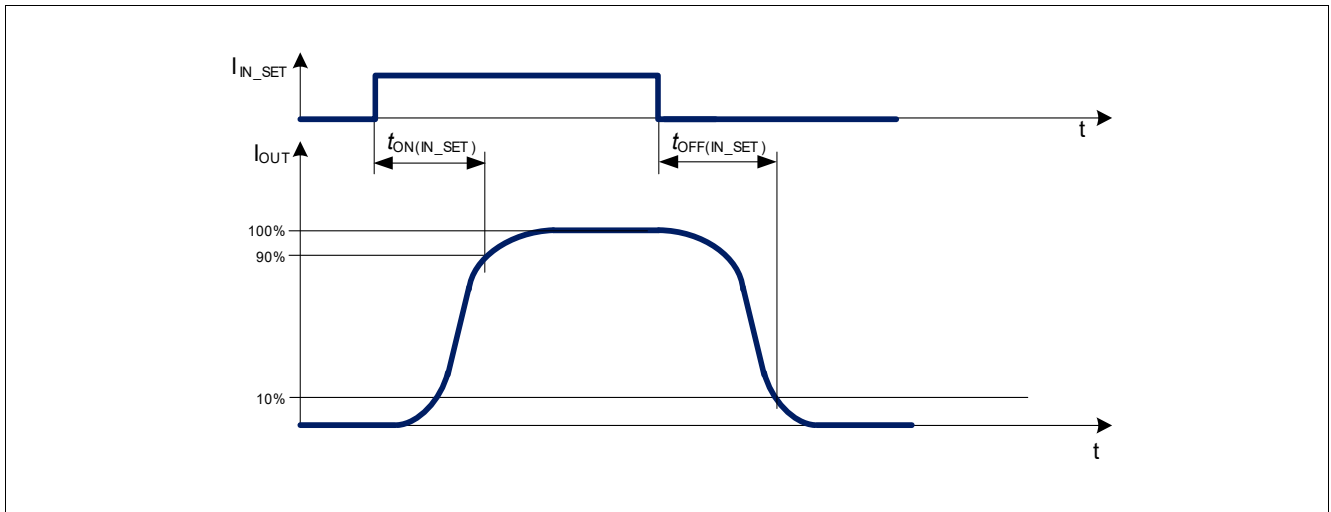
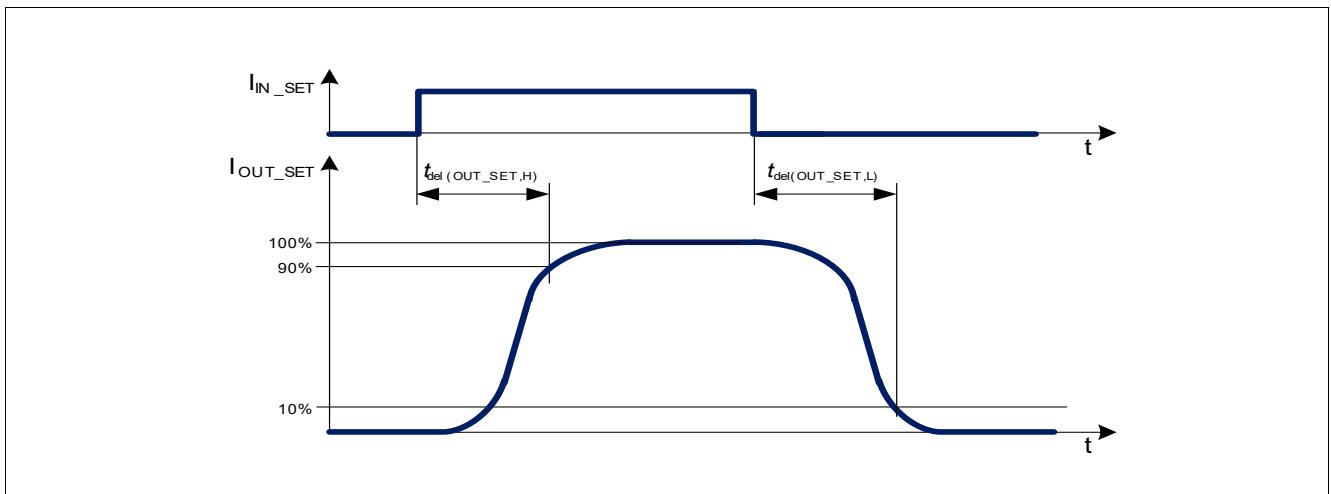
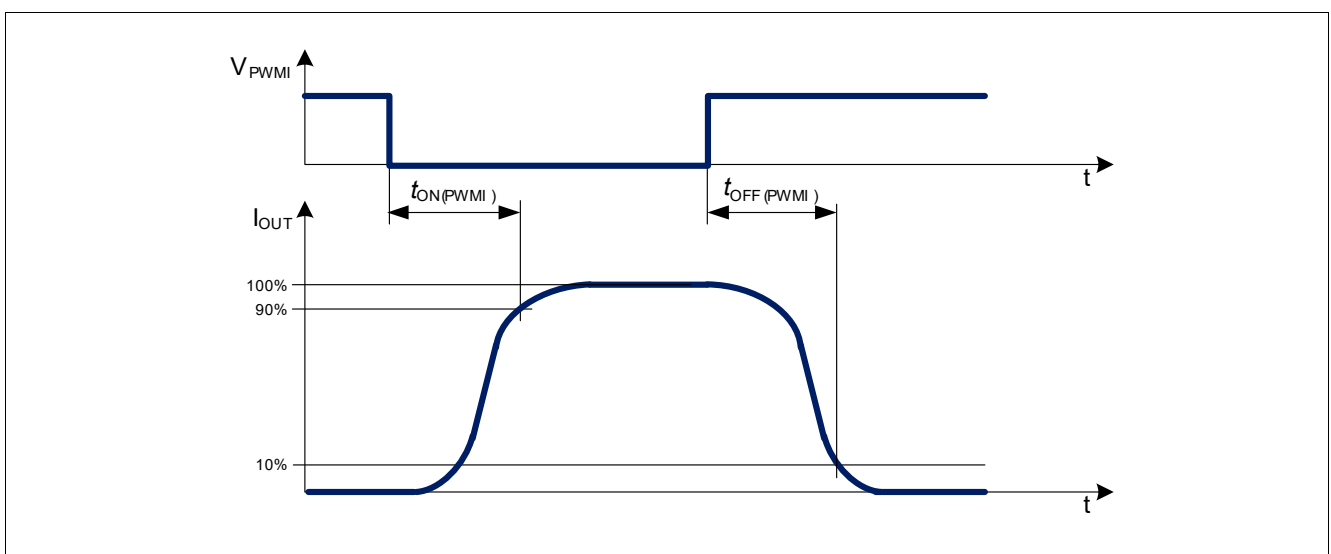

Figure 12 IN\_SET turn on and turn off delay timing diagram
Figure 13 IN\_SET to OUT\_SET activation and deactivation delay timing diagram
Figure 14 PWMI turn on and turn off timing diagram
In the following diagrams (Figure 12, Figure 13, Figure 14) the influences of different driving inputs on output activation delays are shown.
- 2) Refer to Figure 12.
- 3) Refer to Figure 13.
- 4) Refer to Figure 14.